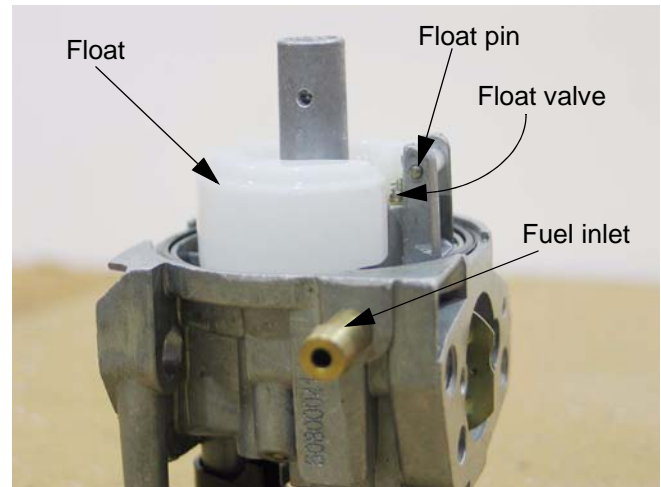

Figure 4.40
4. When inverted, the float should rest in a level position. See Figure 4.40.